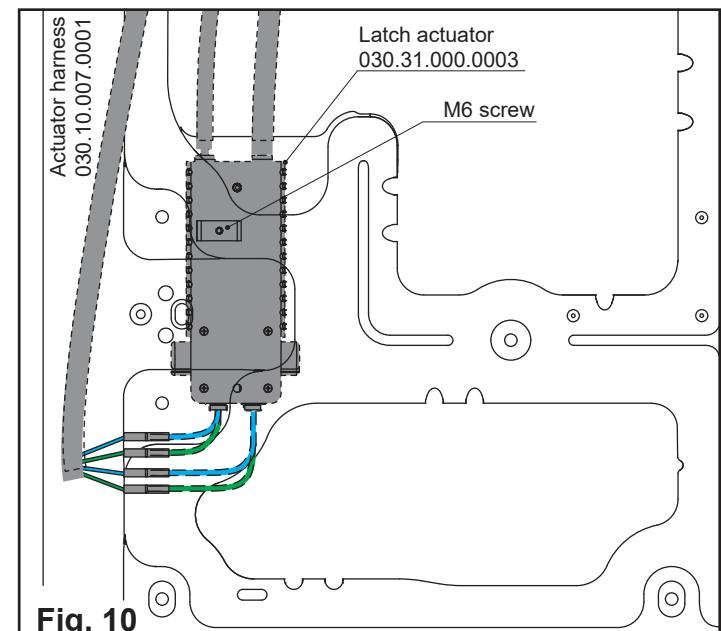

Fig. 10
4. Drill a Ø6.5 mm hole at the point suitable for mounting the latch actuator. Insert the latch actuator into the door recess and secure it with an M6 screw (Fig. 10).
Mark the drill holes as shown in Fig. 10.
Secure the movable contacts group with two countersunk screws ST3.5x19 (supplied), Fig. 10.
Secure the fixed contacts group with two countersunk screws ST3.5x16 (supplied), Fig. 10.